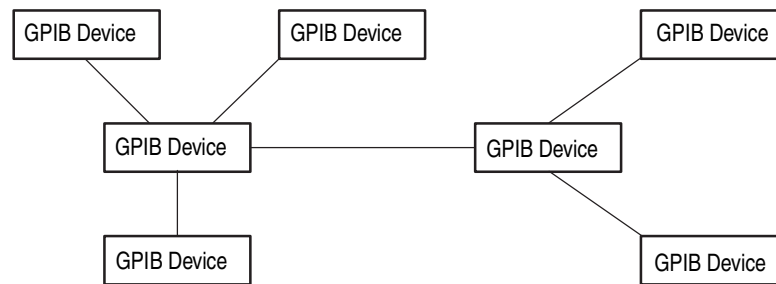

Figure 1-7: Typical GPIB network configurations
- Connect the devices on the network in a star or linear configuration, as shown in Figure 1-7. Do not use loop or parallel configurations.